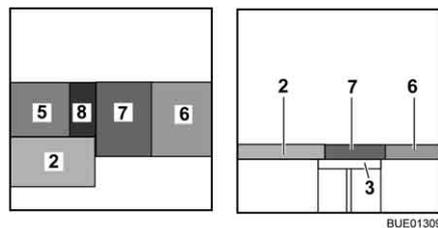

Fig. 129 After conversion
- Place the seat cushion (Fig. 129,7) in the centre.
- Place the back cushion (Fig. 129,6) between the seat cushion and the wall.